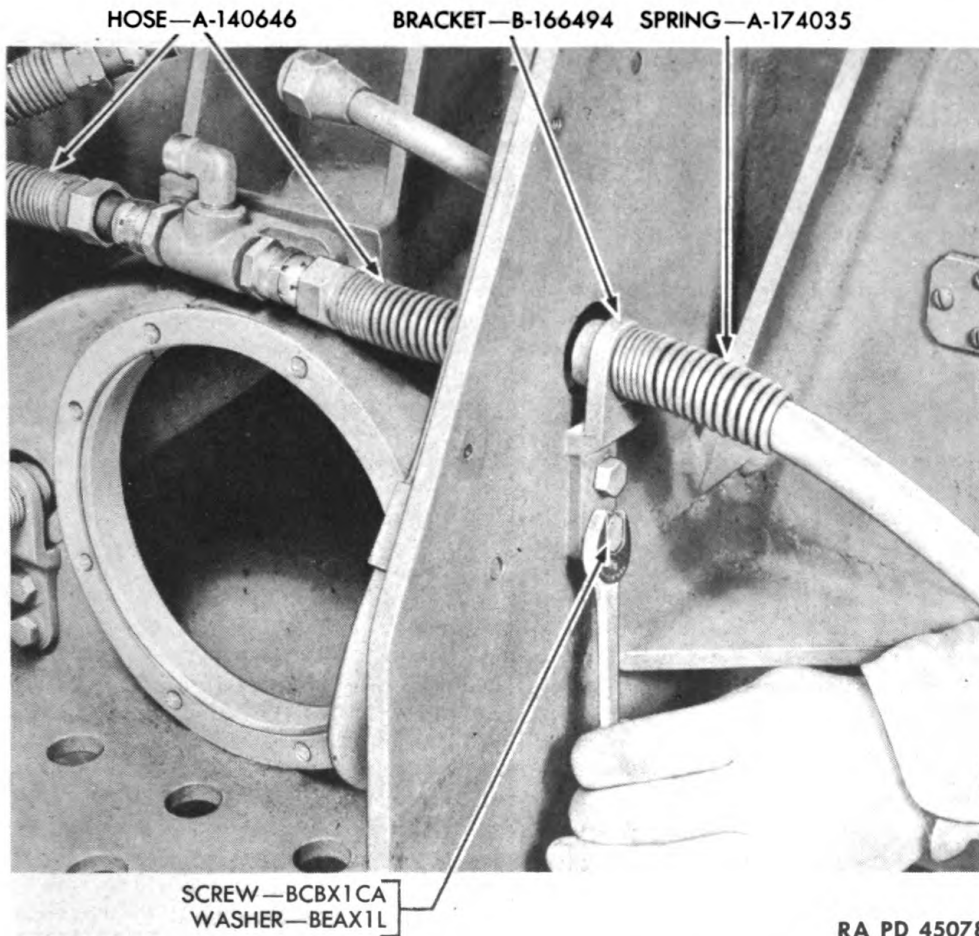

Figure 218—Removing Air Line Hose Support Bracket
(9) Remove tube A174119A from elbow A174071 (fig. 217). Loosen hose connections of hoses A140646 at tee B158341 (fig. 218). Remove two screws BCBX1CA and washers BEAX1L from bracket B166494. Then remove hose A140646, spring A174035, and bracket B166494 from bottom carriage. Repeat the operations and remove other hose A140646 from bottom carriage. **NOTE:** Air line hoses A140646 run from front tee B158341 to right and left front air brake diaphragms on the bogie. They are identical with the hoses which connect the rear air brake diaphragms with the tee on the top of the bottom carriage (step (1) above).
(3) Insert air line hoses A140646 through openings in sides of bottom carriage. (NOTE in par. 82 d (9).) Coat threads of air line hose support bracket retaining screws with COMPOUND, rust-preventive, light. Secure brackets to bottom carriage with retaining screws and washers (fig. 218). Connect hose connectors at air line front tee. Connect tube A174119A to compression tube elbow on air line front tee.